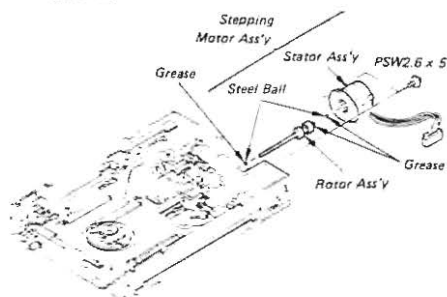

Fig. 4-10 Stepping Motor Ass'y (Stator Ass'y and Rotor Ass'y) Replacement
- f. Remove the two screws (PSW2.6x5) securing the Stator Ass'y and then remove the Stator Ass'y and steel ball. (Refer to Fig. 4-10)